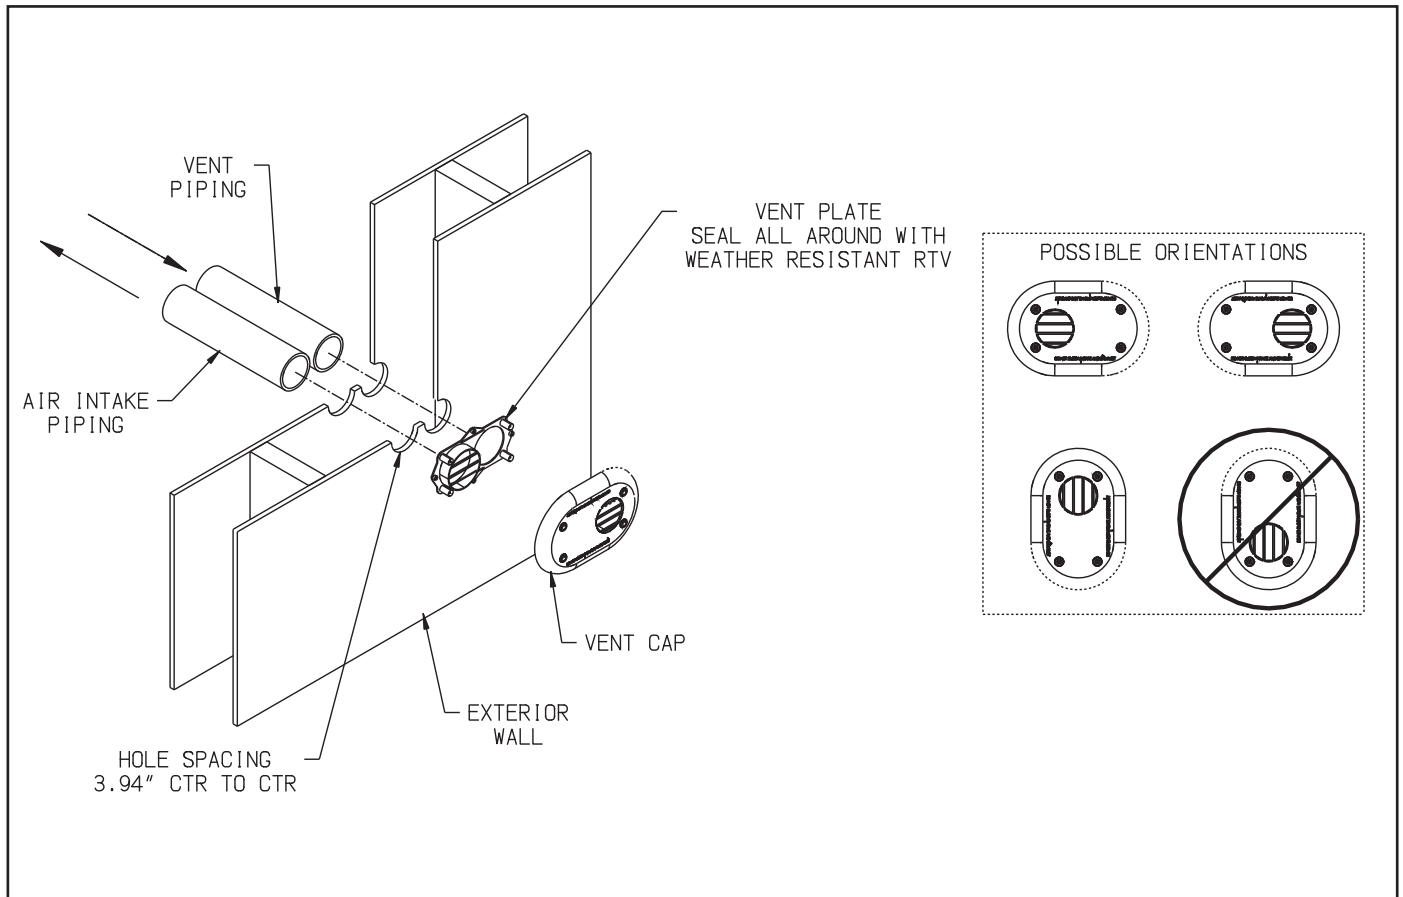

Figure 7.30: Installation of Diversitech Low Profile Terminal Through Sidewall
6. Installation of Diversitech Low Profile Terminal (Terminal Option C) – See Figure 7.30: